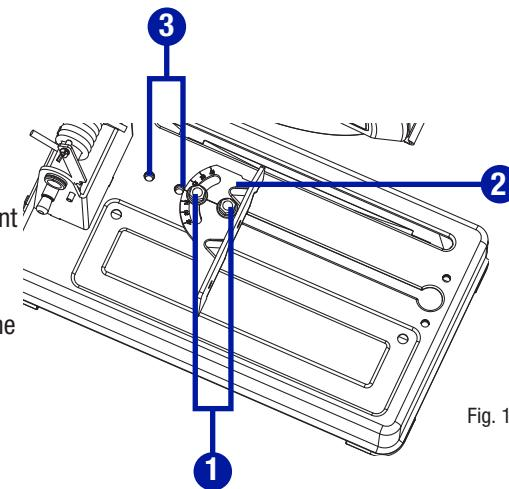

Fig. 12
**ADJUSTING THE WIDTH OF CUT (Fig. 12)**